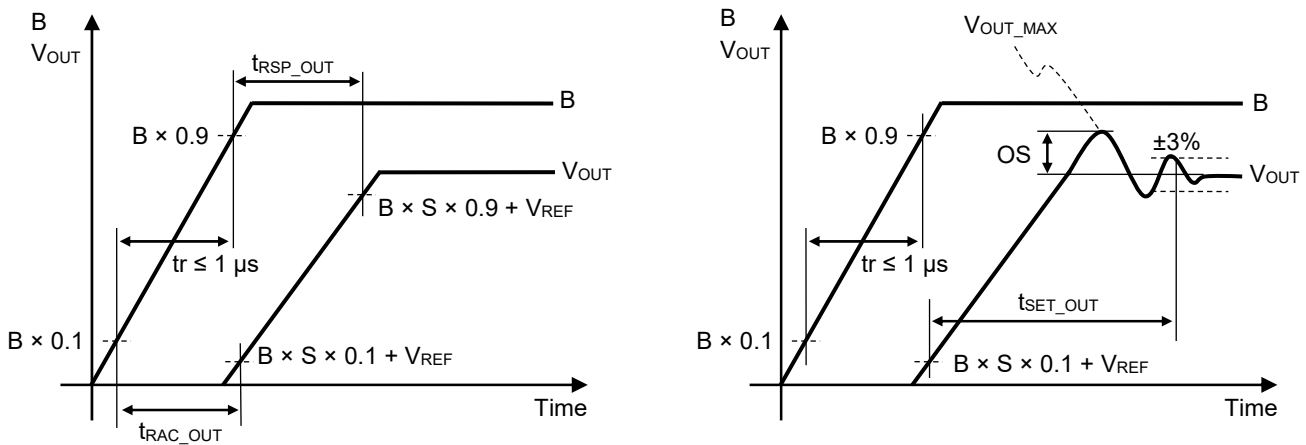

Figure 26
Figure 26 shows the response waveform of the output voltage (V_{OUT}) when the magnetic flux density (B) is raised from 10% to 90% within 1 μ s.